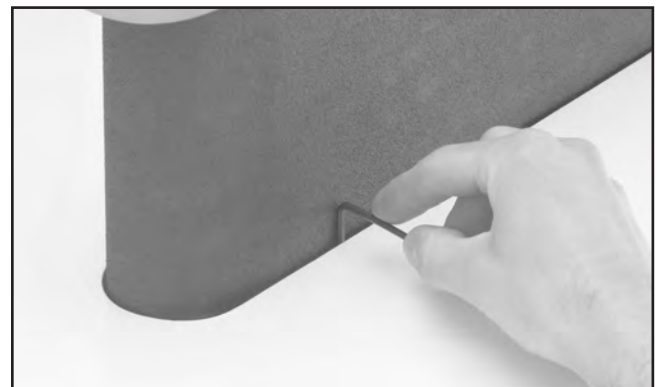
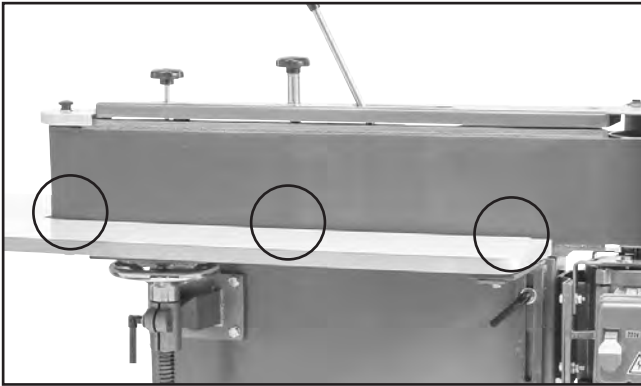

Figure 29. Using hex wrench as gauge to position table.
Figure 30. Locations to gauge table spacing.
- Use 1.5mm or 1/16" hex wrench as gauge to position table evenly away from platen and idler roller, as shown in **Figure 29**, at locations shown in **Figure 30**.